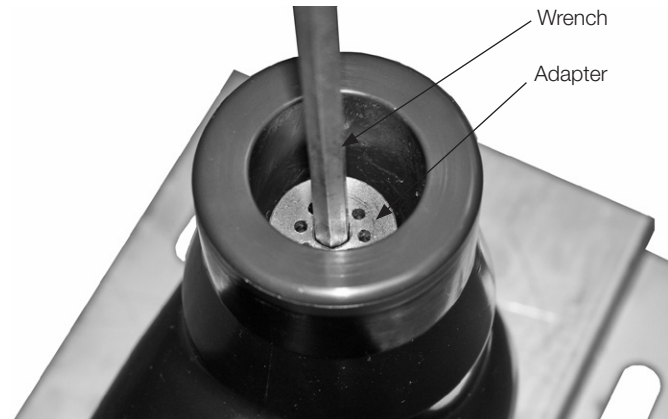

Figure 39. Turning well adapter with socket on wrench
5. Turn the socket counter-clockwise to remove the well adapter. Refer to Figure 39.